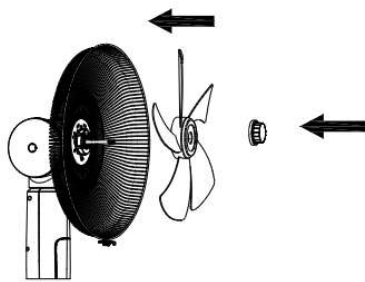

Fig. 4
4. Mount the fan blade onto the motor shaft; and fasten the fan blade knob firmly by turning in an anti-clockwise direction. (Fig. 4)